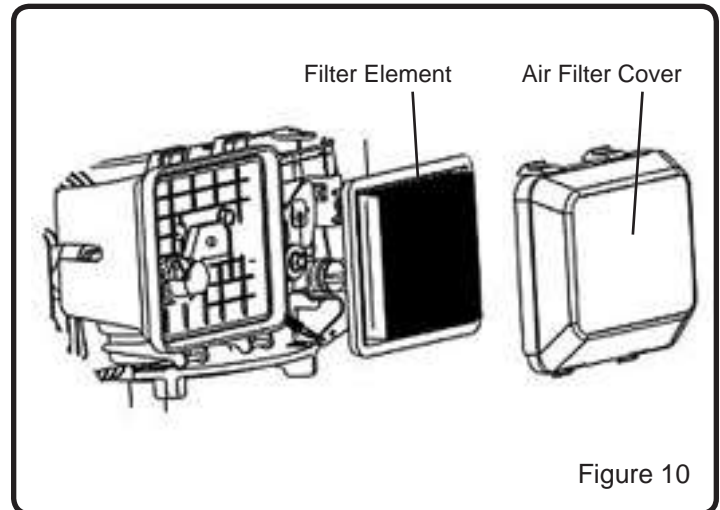

Figure 10
1. Remove the air filter cover, and carefully remove the filter element. (See Figure 10)